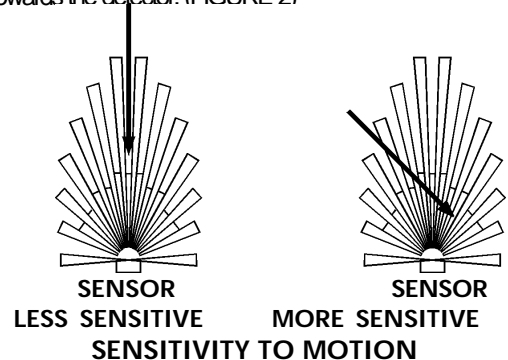

FIGURE 2
- Prior to mounting, keep in mind that the motion sensor is more sensitive to the motion, which is across the detection field and less sensitive to the motion, which moves directly towards the detector. (FIGURE 2)